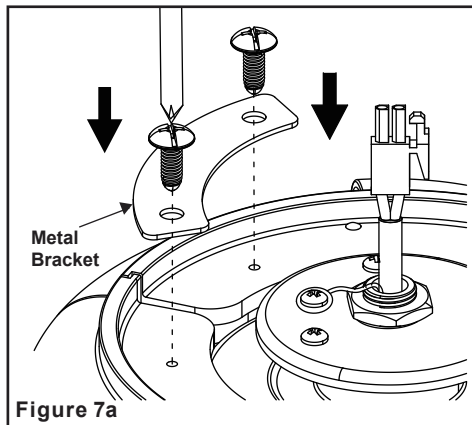
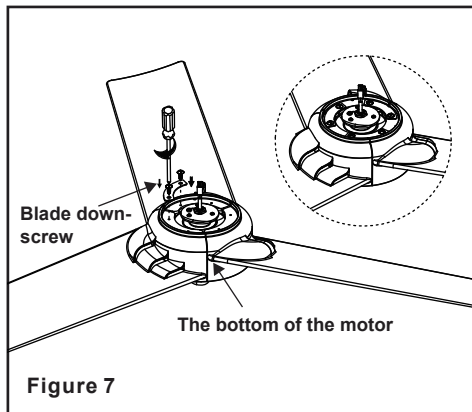

Figure 7a
Figure 7
Step 2. Attach the blade down—screws and the metal bracket (b) as shown in figures 7 and 7a. Make sure that each metal bracket is attached to two different blades as seen in figure 7a. Start a screw into the blade, do not tighten. Repeat for the remaining screws. Repeat these steps for the remaining screws and metal brackets.